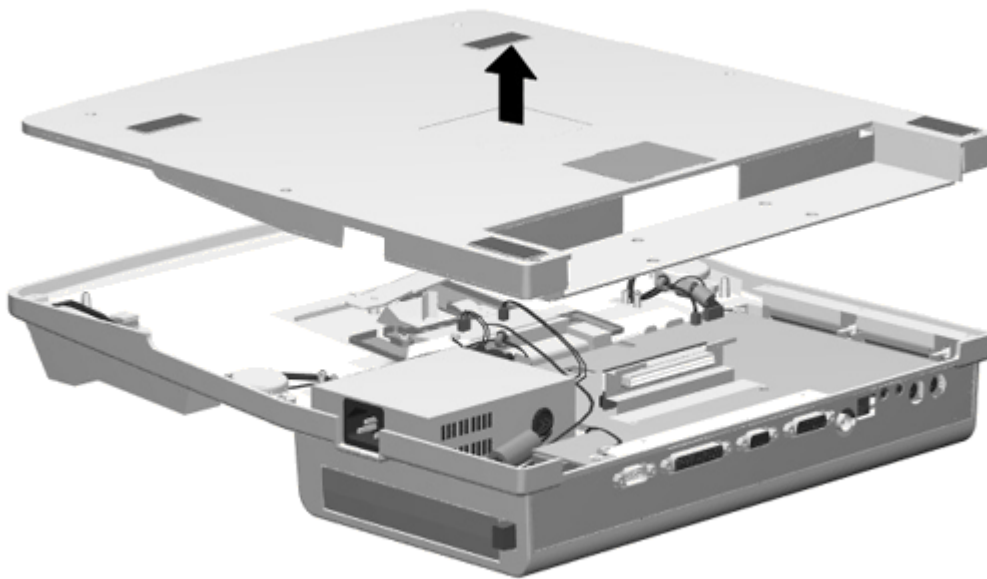

Figure 6-10. Removing the Bottom Cover Assembly
3. Lift the bottom cover from the expansion base (Figure 6-10).